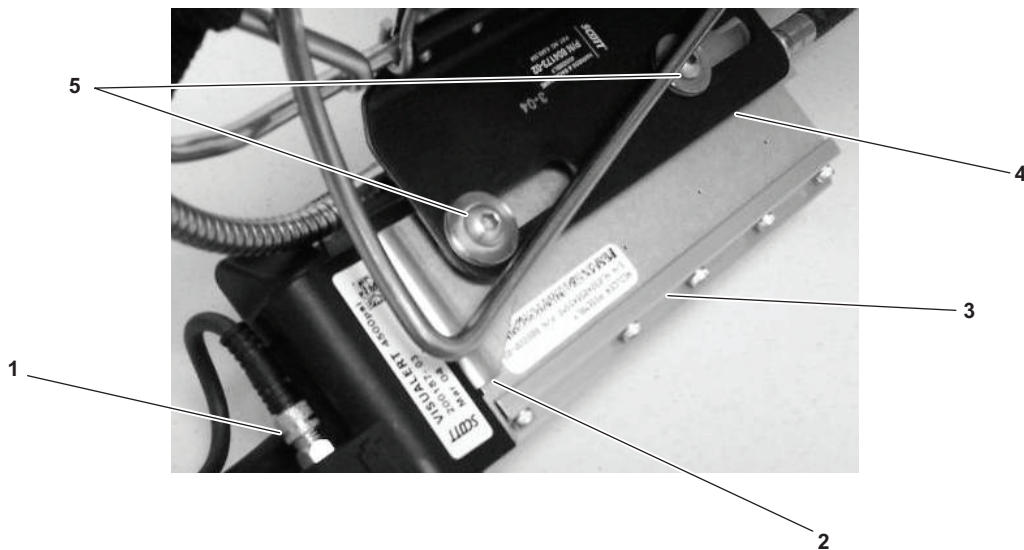

Figure 6-38. Visualert Placement
- (11) Rotate the knurled connector (figure 6-38, item 1) clockwise by hand to tighten.
- (12) Position the Visualert mounting bracket (figure 6-38, item 2) between the pressure reducer (figure 6-38, item 3) and the mounting plate (figure 6-38, item 4).
- (13) Using a 5/32 in. Allen wrench, install the mounting screws, sliding washers, and spacers (figure 6-38, item 5) securing the Visualert mounting bracket (figure 6-38, item 2) to the pressure reducer (figure 6-38, item 3) and the mounting plate (figure 6-38, item 4).
- (14) Replace the cylinder assembly IAW paragraph 2.3.2.1 step b.
- (15) Leak check the area of repair IAW paragraph 6.5.2. Ensure that the HUD initiates. IF the HUD does not initiate, repeat steps c.(10) and c.(11) and retest.